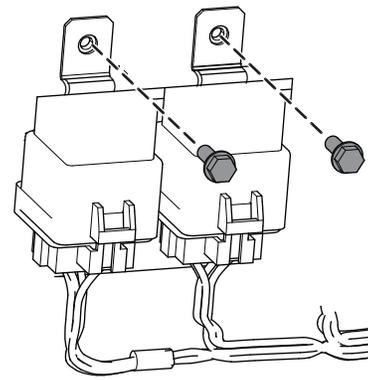

Figure 5
22. Mount each of the relay packs to the inside of the engine compartment using 2 sheet-metal screws (Figure 5).